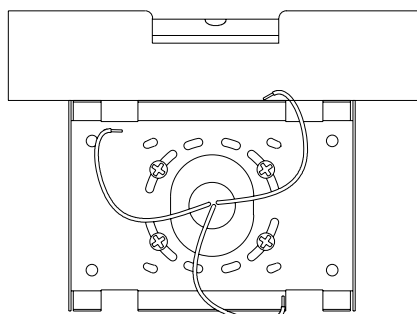

Figure 4
5. Level mounting plate to wall using a spirit level. See Figure 4.